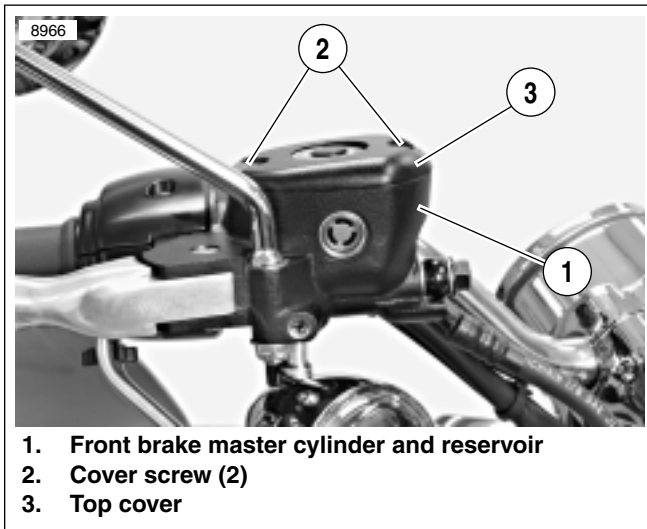

Figure 1-29. Front Brake Master Cylinder Reservoir
1. See Figure 1-29. Position motorcycle so that front master cylinder reservoir (1) is level.